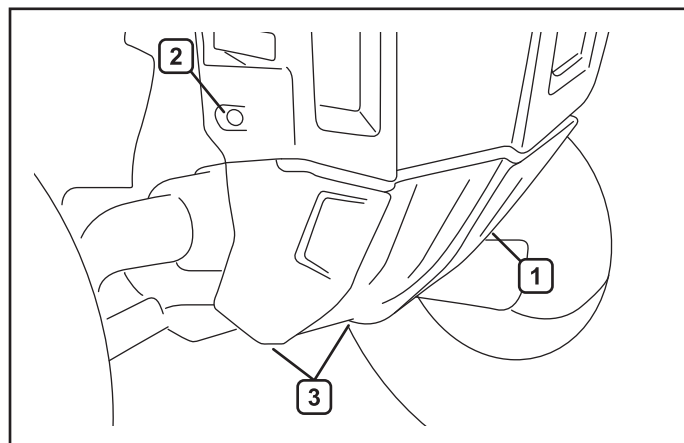

Figure 8.
5. Remove lower cover (1) by removing two upper screws (2) and two lower screws (3), see figure 8.